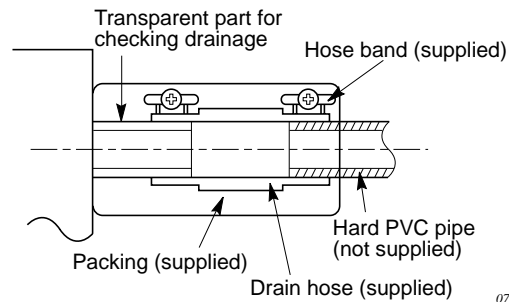

Fig. 3-38
- Prepare a standard hard PVC pipe (O.D. 32 mm) for the drain and use the supplied drain hose and hose band to prevent water leaks. The PVC pipe must be purchased separately. The transparent drain part allows you to check drainage. (Fig 3-38)
**Tighten the hose clamps so their locking nuts face upward. (Fig 3-38)**